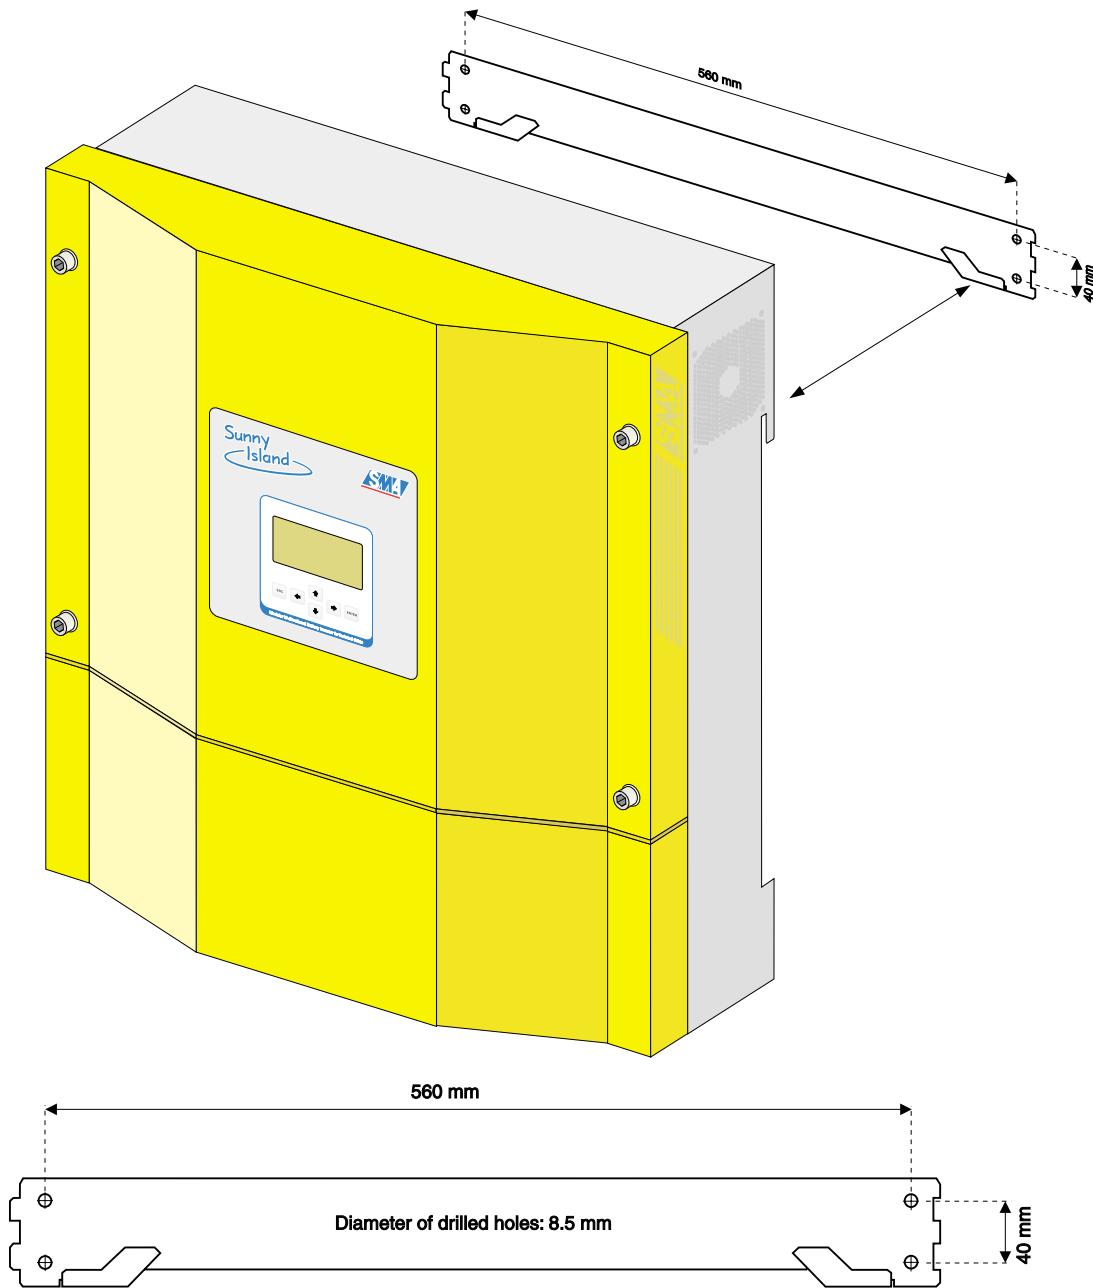
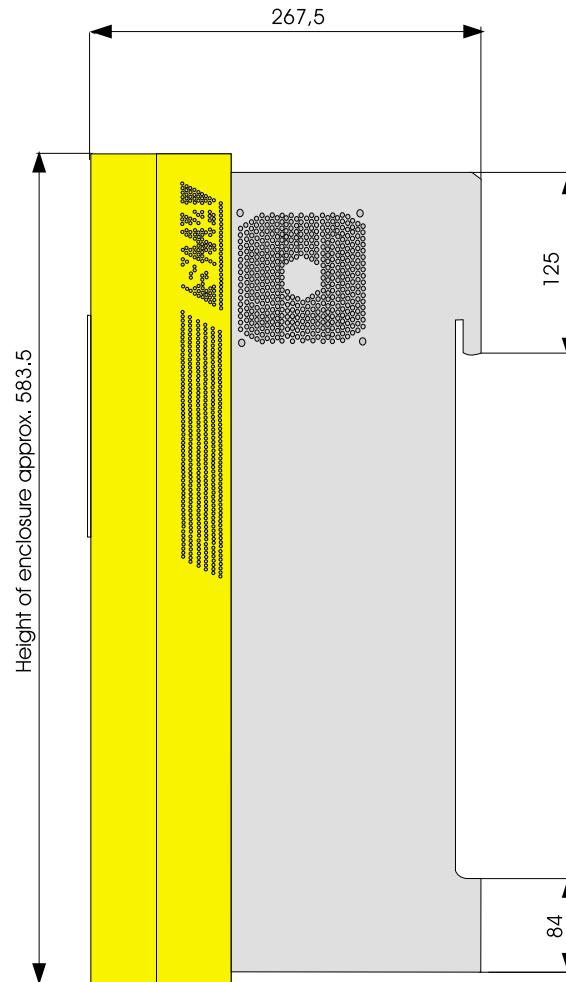

Fig. 3.1: Mounting slide with fastening points
Fig. 3.2: Side view of the Sunny Island with dimensions
- 1 Slide for recommended mounting to wall (Fig. 3.2)
- **Provide a correct position of the battery inverter (see Fig. 3.1 and Fig. 3.2).**
The Sunny Island is mounted on a mounting rail on a firm surface. Four screws and the corresponding dowels are necessary. The screws and dowels are not included in delivery and have to have a sufficient size. We recommend two 6 mm hexagon head screws and 8 mm dowels for fastening on top (see Fig. 3.1).